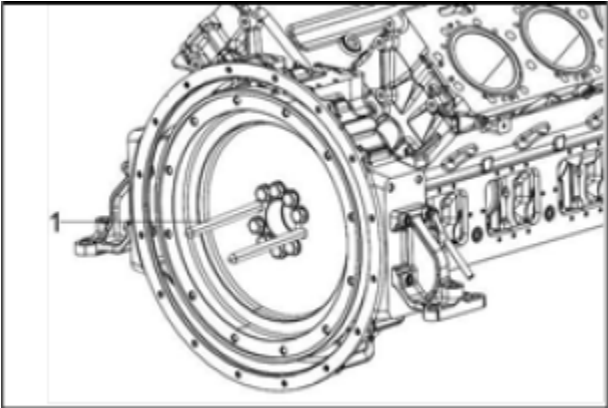

Figure 97.
3. Fit the flywheel guides (Figure 97, Item 1) into the opposed flywheel bolt holes.